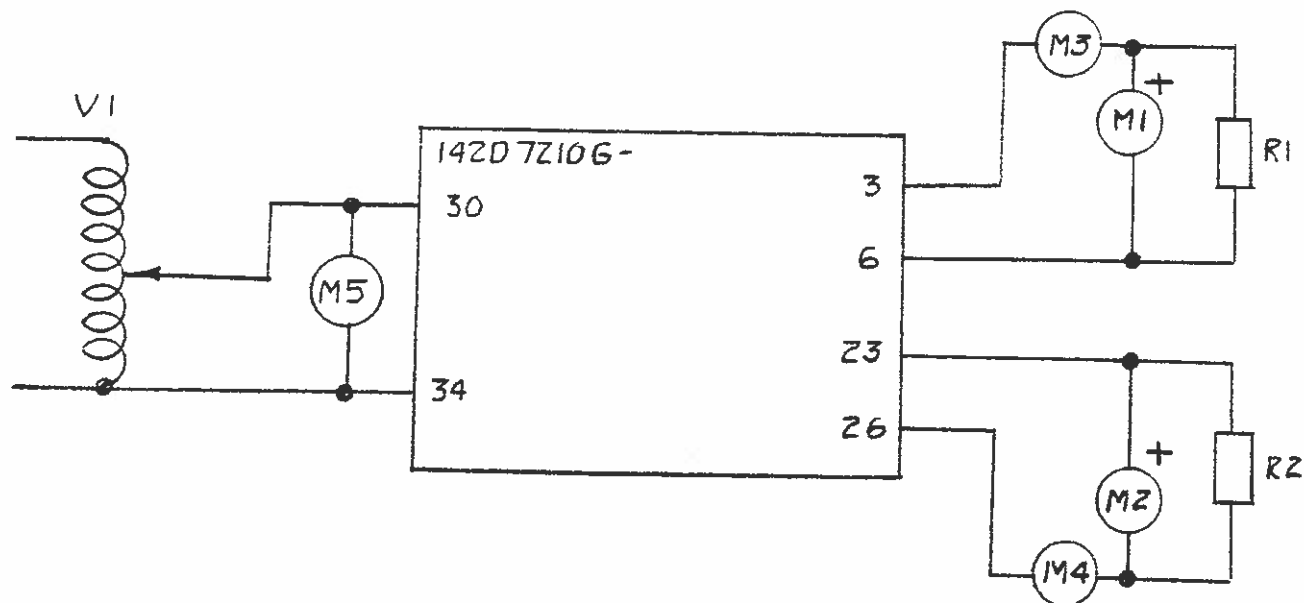

FIGURE 1a TEST CONNECTIONS
2. Connect the circuit board per Figure 1a.
2. Connect the circuit card per Figure 1a.
2. Connect the circuit board as per Figure 1a.